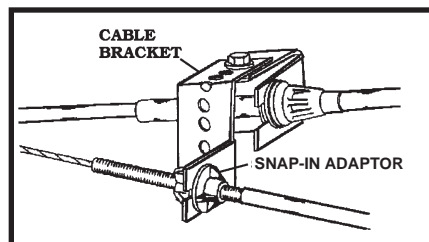

Figure 22
3. The **SNAP-IN ADAPTOR** snaps into the square hole of the **CABLE BRACKET** **Figure 22** or snaps into an existing square hole on the vehicle (common on